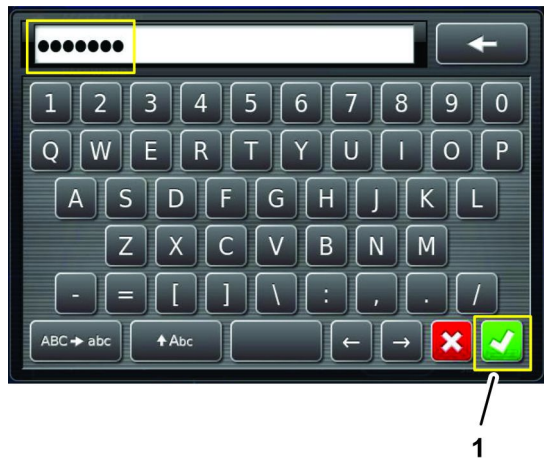

Figure 211
6. Use the on-screen keyboard to enter the password that you received in step 1, and press the confirm icon (Figure 211).